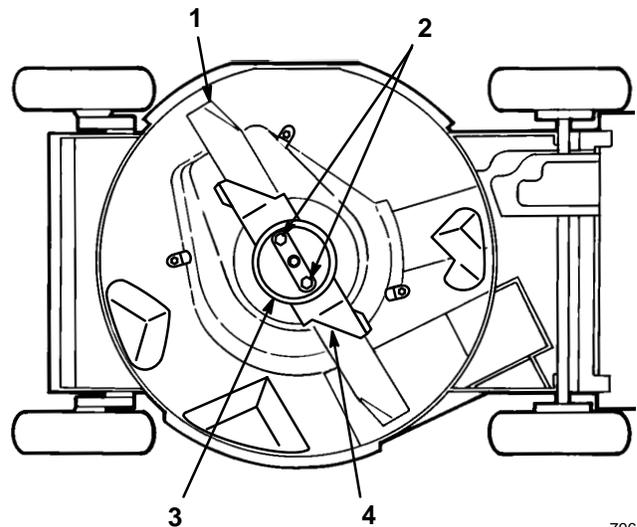

Figure 22
3. Tip mower on its right side (Fig. 22).
5. **REMOVING BLADE**—Grasp end of blade using a rag or thickly padded glove. Remove blade nuts, anti-scalp cup, accelerator, and blade (Fig. 22).